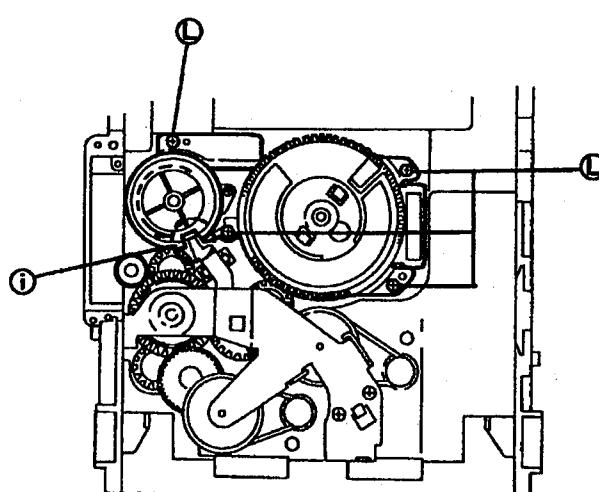

Fig. 36
4. Rotate the Cam gear L so that the select gear's ② is positioned as shown in Fig. 36.
5. Remove 4 screws ③ securing the cam unit which includes the cam gear L and Cam R1, R2 ass'y. (See Fig 36.)